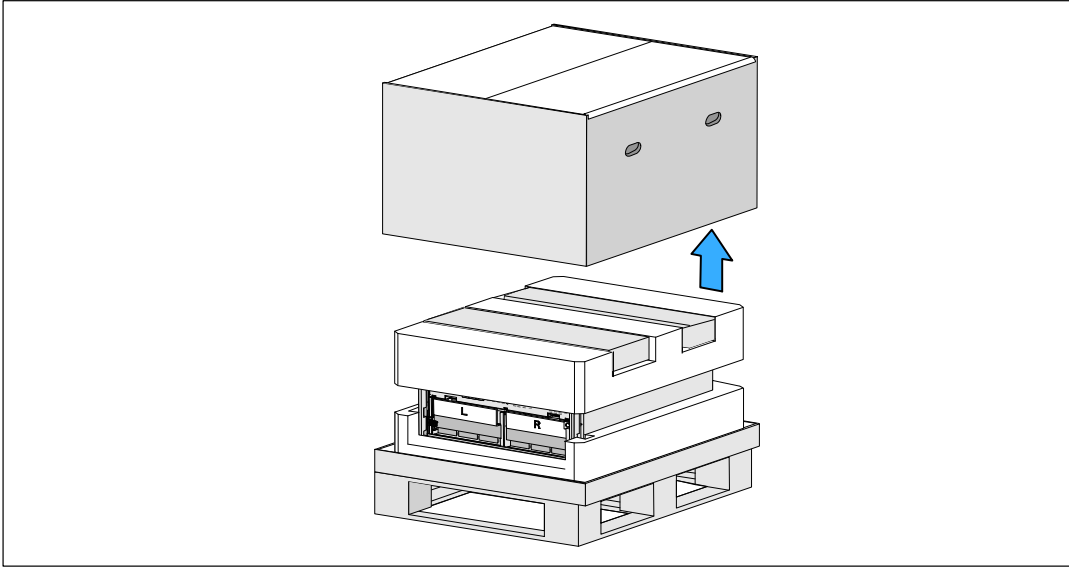

Figure 4. Detaching the Outer Carton
- 2 Detach and remove the outer carton (see Figure 4).